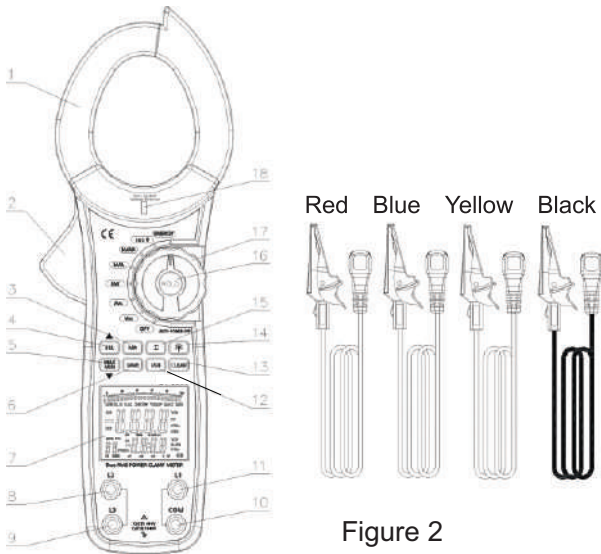

Figure 2
5.2. The Meter Front Structure (see figure 2)